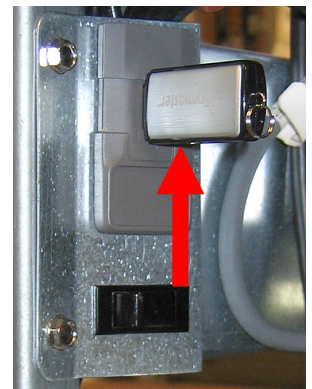

Figure 2
11. Insert the USB flash drive (see Figure 2).